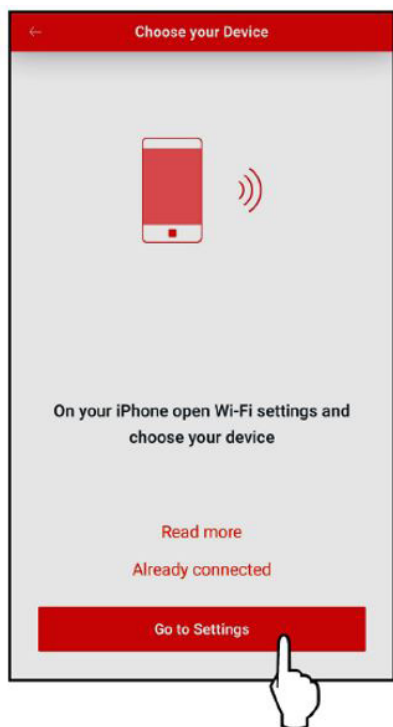

Figure 97. Go to Settings
4. Press the "Go to Settings" button on the "Choose your Device" screen. See Figure 97.